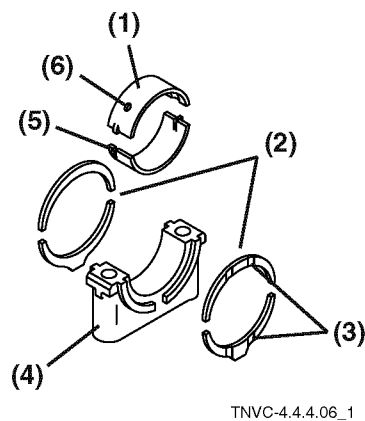

Figure 5-76
1. Coat the inside diameter of the lower main bearing inserts (**Figure 5-76, (5)**) with engine oil, and install them onto the main bearing caps (**Figure 5-76, (4)**).
2. Install the thrust bearings (**Figure 5-76, (2)**) with the oil grooves (**Figure 5-76, (3)**) facing outward toward the crankshaft.